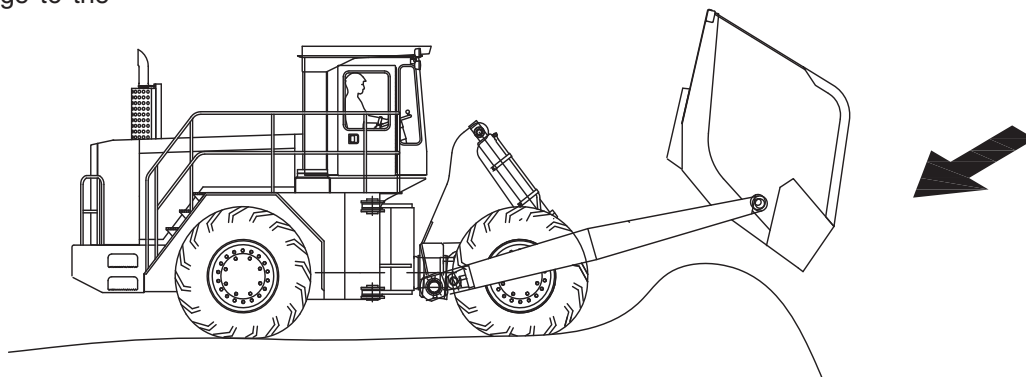

Figure 5-19
2. You can back blade with the bucket tilted forward, with no damage to the machine (See Figure 5-19).